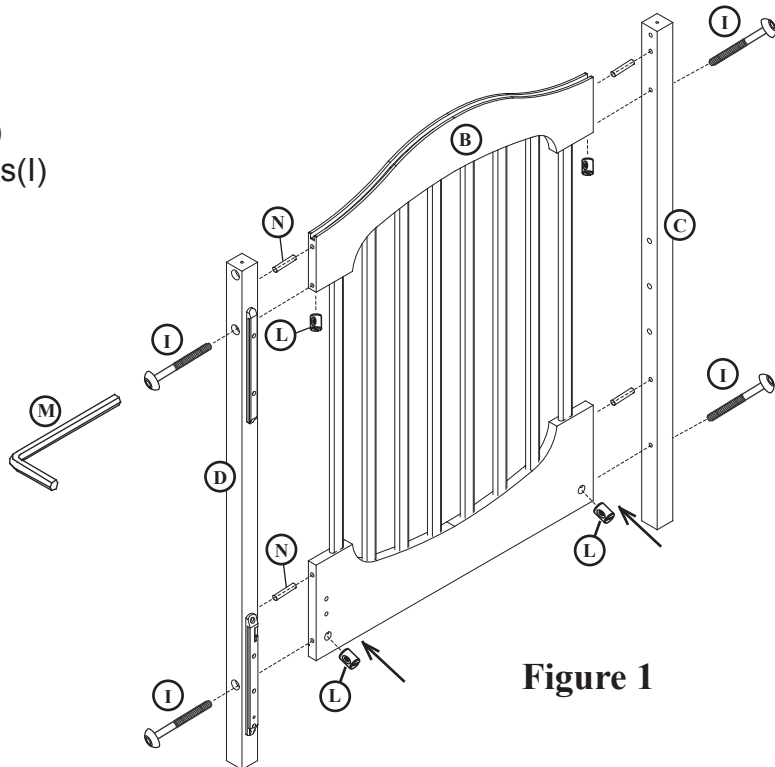

Figure 1
Attach the Front legs(D) & Rear legs(C) to the crib ends Bottom (B) using wood dowels(N) & 2 3/4" Bolts(I) & Barrel nuts(L). See Figure 1.